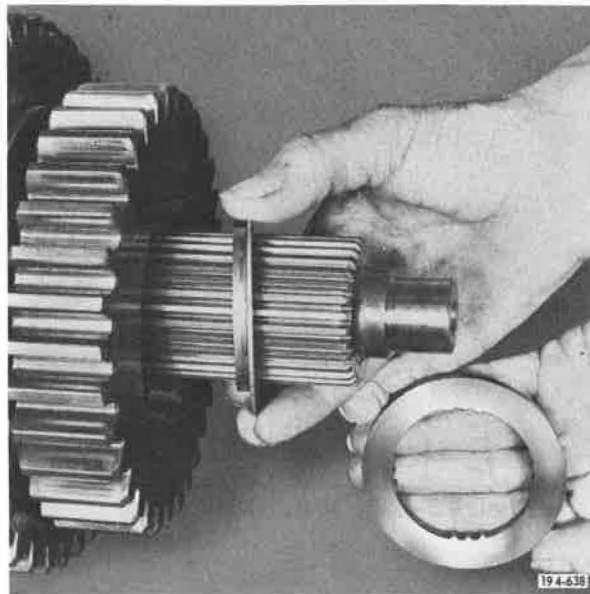

Figure 5-955. Installing Thrust Washers
16. Install fourth speed gear flanged thrust washer, and fourth speed gear splined thrust washer. See **Figure 5-955**.